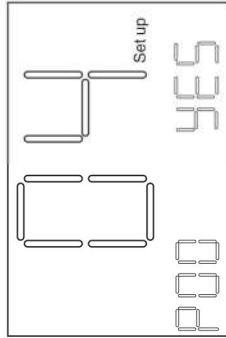

figure 5
1. Input 4mA correction, 2. Input 20mA correction, 3. Close direction, 4. Location of letter loss. 1. Input 4mA calibration (calibration range: 3.8-4.5mA)After entering the menu, the first internal control parameter is displayed. The display interface is shown in Figure 5:"04" flickers in the half of the screen; internal control parameters are displayed in the lower left corner. The label is "P00". The lower right corner shows "NO".At this point, the standard 4mA control current is input to the control unit, and it is set for several seconds.After stabilization, pressing the down key of the remote control can be changed from "NO" to "YES". Press the remote control confirmation key to confirm that the current input current is 0%. Location, if the settings are successful, "LF" no longer flickers, fixed display"LF" 3 seconds later, automatically jump to the next control parameter; if not setSuccessfully, automatically jump to the next control parameter.